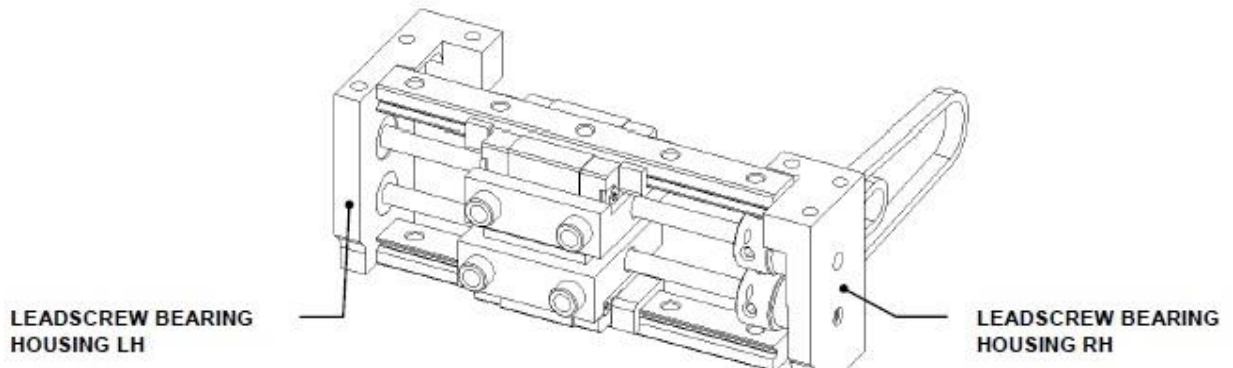

Figure H-19: Leadscrew Bearing Housing
1. Remove the right side of the leadscrew bearing housing (Figure H-19).